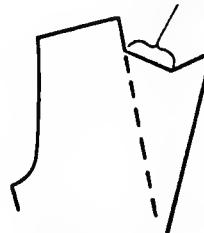

Fig. 5. Gorgeline.
**Gorgeline.** The part of the seamline that joins the collar and the facing extending from the creaseline to the notch (Fig. 5).